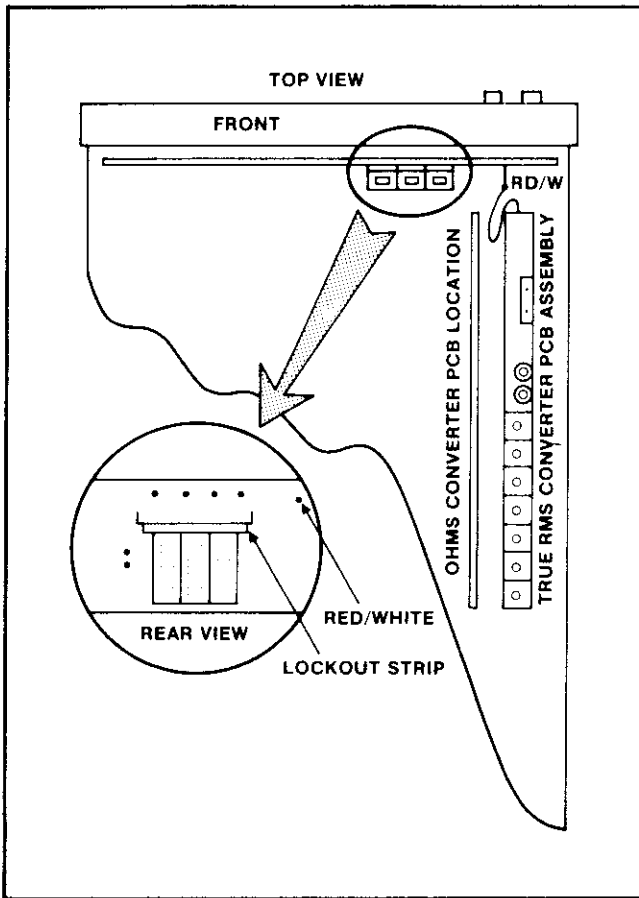

Figure 609-2. True RMS Converter PCB Installation Details
3. Position and install the True RMS Converter PCB Assembly on the Main PCB Assembly as shown in Figure 609-2. The True RMS Converter mates with pins provided on the Main PCB. Press the pcb into place.
4. Connect the red/white wire on the True RMS Converter PCB to the pin marked RD/W (See Figure 609-2) on the rear of the Display PCB Assembly.